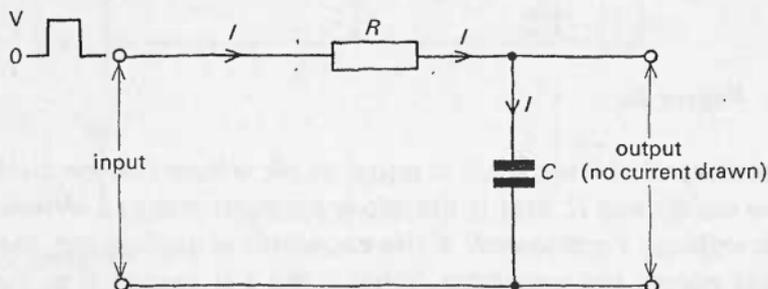

Figure 51
**29** This question is about the response of the  $RC$  circuit shown in figure 51 to an input which suddenly rises to a high voltage  $V$ , from zero, stays there for a while, and then suddenly goes back to zero.